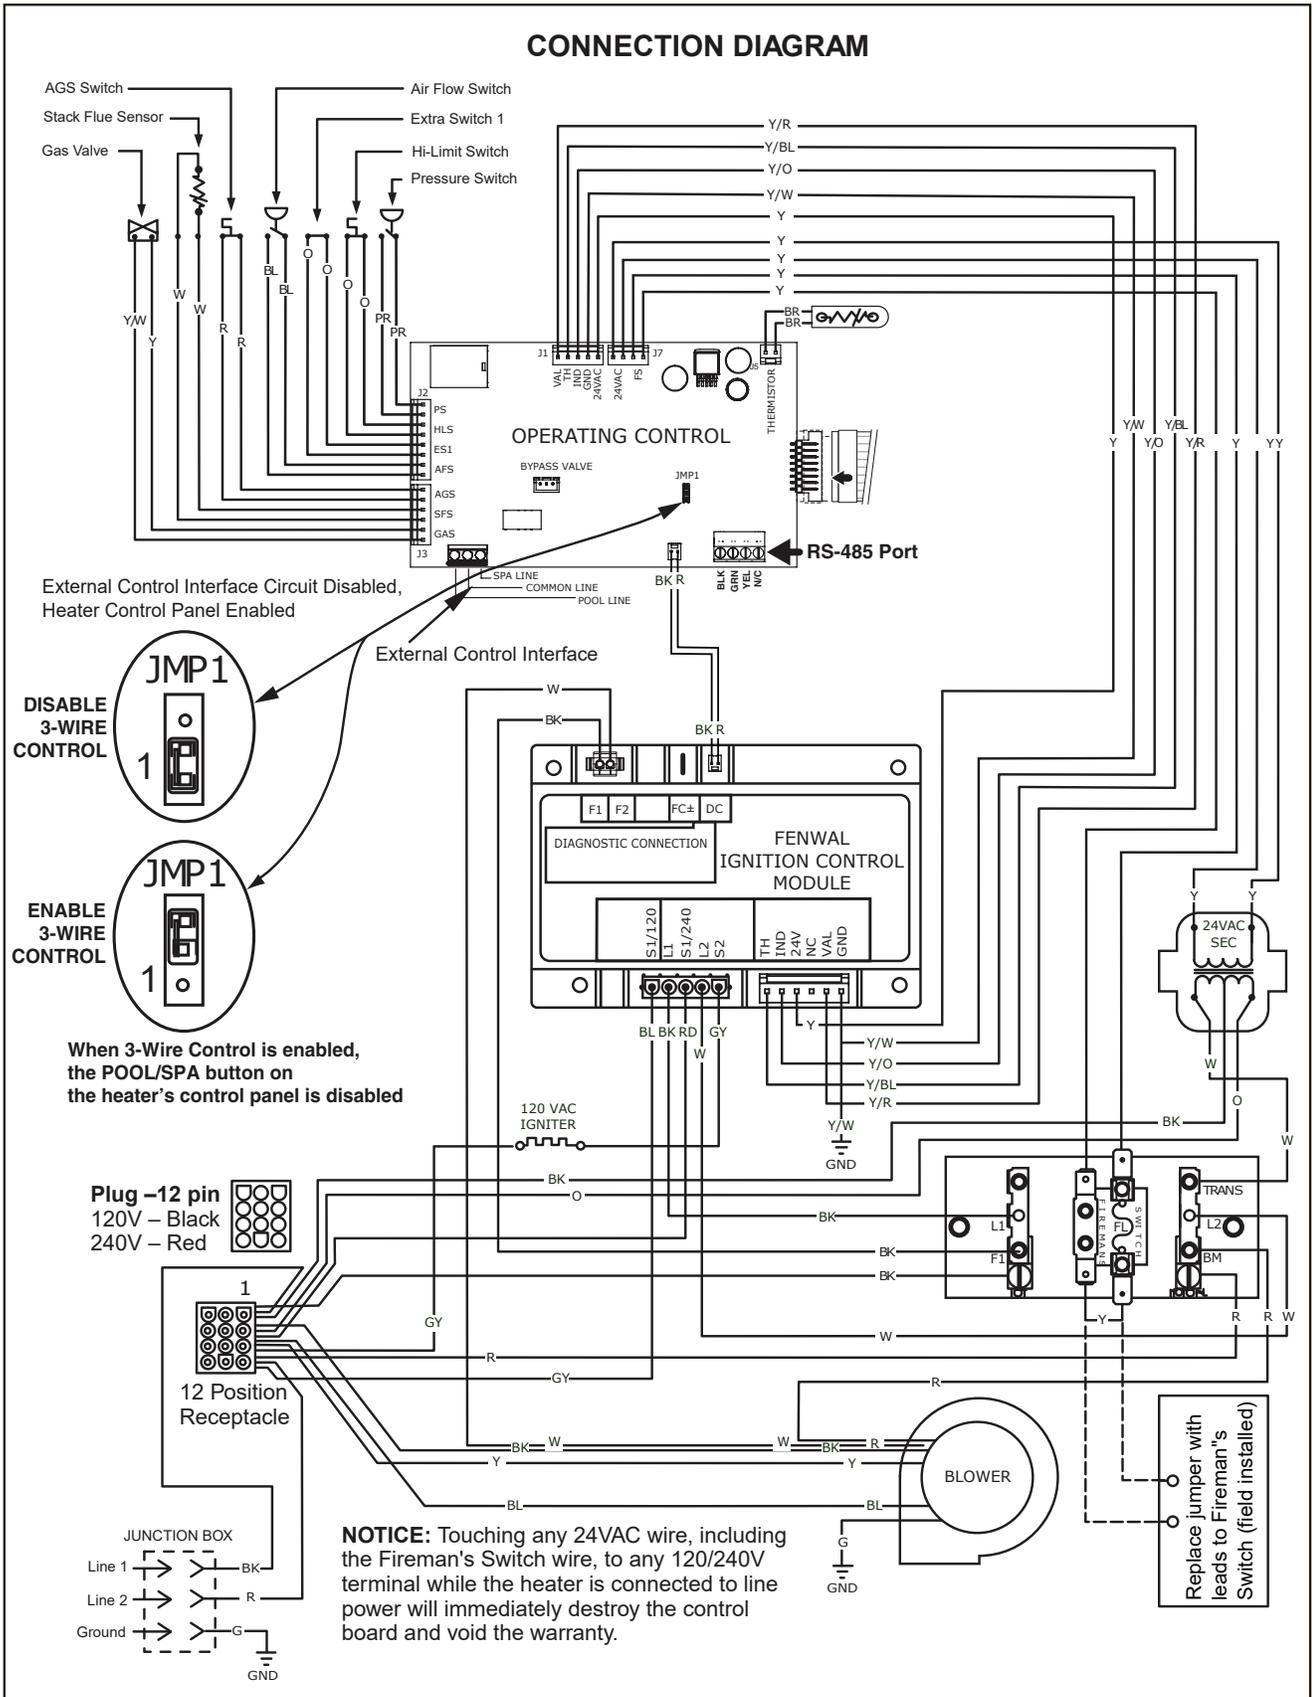

Figure 34.
- Connect wires between the control board terminals on the heater and the external relays, as shown in **Figure 34**. Use at least 2 relays per heater, to allow for an “OFF setting” on each heater mode. Select relays that can handle logic level switching. **DO NOT** apply line voltage to control board terminals.
- **Move jumper (as shown on Figure 34) to enable external control and to disable the heater membrane pad’s “Pool /Spa button (the “HEATER OFF”) button on the control panel remains functional).**